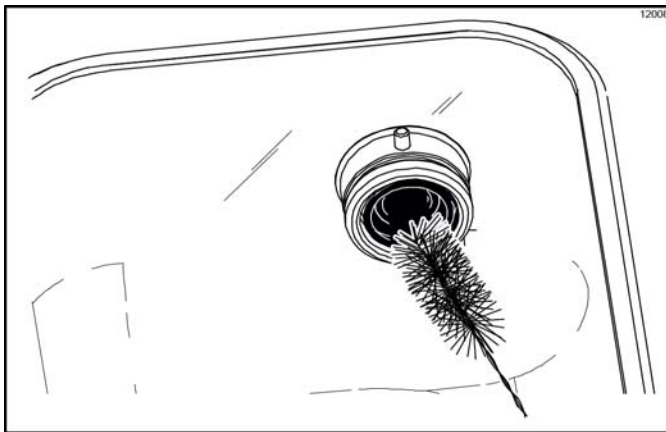

Figure 6-126
4. Using the black brush, clean the drive hub openings in the rear wall of the mix hoppers. (See Figure 6-126.)